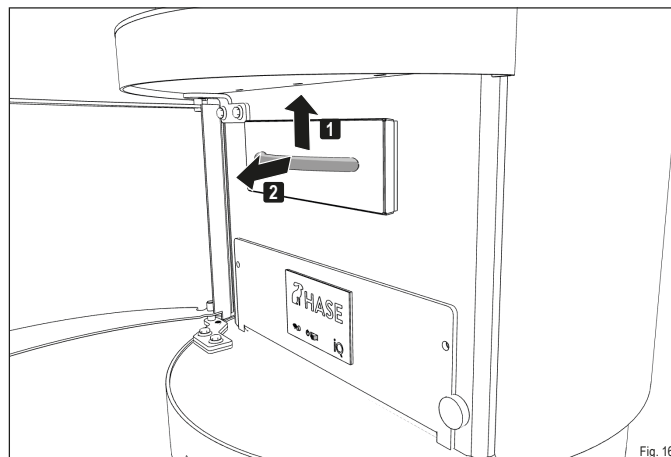

Fig. 16
- ▶ Pull the ash drawer out of the opening by the cover (Fig. 16).
- ▶ Pull the ash drawer out of the opening by the cover (Fig. 16). Empty the ashes into a fireproof container or vacuum out the drawer.